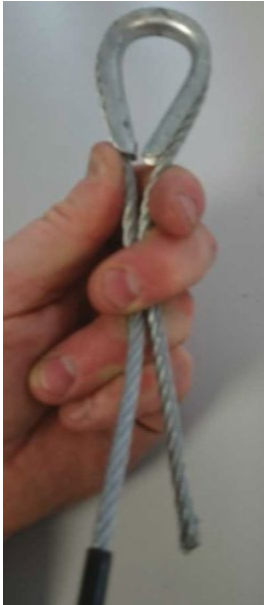

Figure 6 – Thimble and Rope Assembly
2. At one end of the wire rope, make a loop (16" Stripped of vinyl) to tightly fit around the rope thimble as seen below in *Figure 6*.